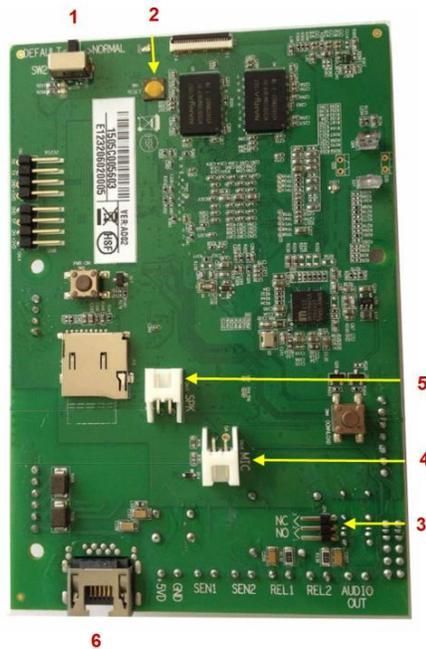

Figure 3-2 The IP Door Phone PCB Module
Figure 3-2 shows the terminal locations on the wire connector provided with the unit. This connector is then inserted into the mating connector located at the base of the internal PCB. All wiring to the unit shall be attached to the wire connector.
1. Remove the front panel cover from the Door Phone unit and find the wiring connector on the PCB module. ( See Figure 3-2 )
2. **Important: To set device in operational mode, switch 1 on PCB shall be switched to position “Normal”.** ( See Figure 3-2 )
2. **Important: To set device in operational mode, switch 1 on PCB shall be switched to position "Normal".** ( See Figure 3-2 )
5VD (5V DC)	External power supply 5VDC 2A input (if no POE applied).  Draw attention on connection polarity: +5V and GND marked on PCB (Figure 3-2)  The External Power Supply does not included in standard IP394X package
2. By using the hardware 'Factory Default Settings' switch ( See Figure 3-2 )